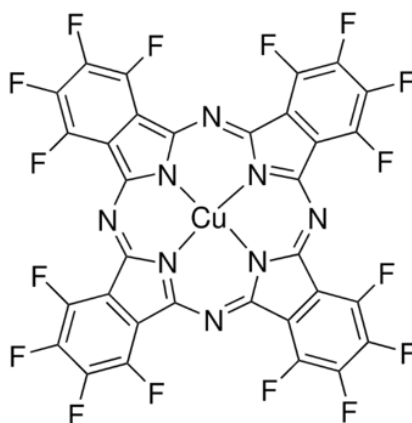

Figure 2: Structural formula of F₁₆CuPc
You will investigate three different samples. The first sample is a Si(100) wafer with a native surface oxide layer. The second sample consists of a thin film of copper-hexadecafluorophthalocyanine ($\text{=F}_{16}\text{CuPc}$, see Figure 2 for structural formula) deposited on natively oxidized Si(100). The final sample is a 7075 aluminium alloy.